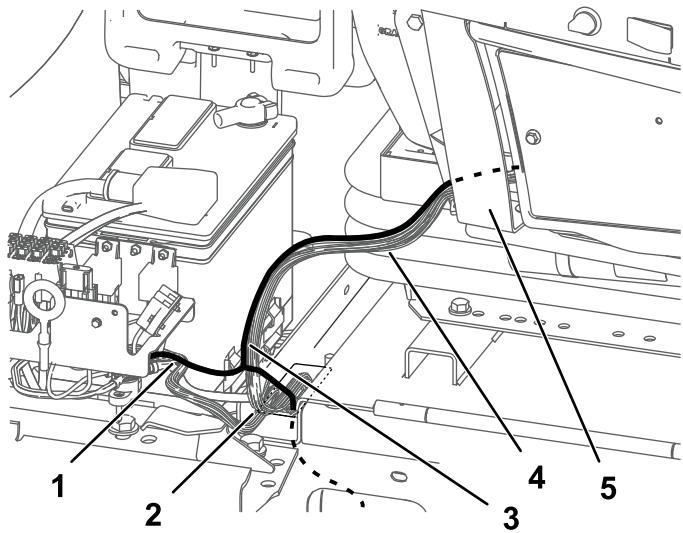

Figure 22
1. Route the wire harness along the existing harness into the opening in the frame behind the seat (Figure 22).